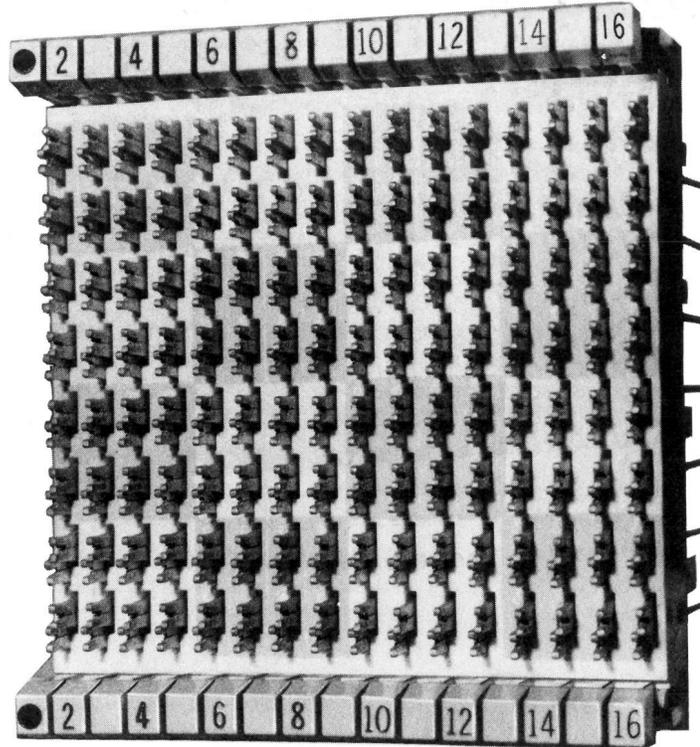

Fig. 2—64-Pair Connecting Block
- 64-pair blocks (Fig. 2) consisting of 4-paired rows by 16 columns. Sixteen 64-pair blocks can be installed on each COSMIC module shelf numbered 2 through 10.